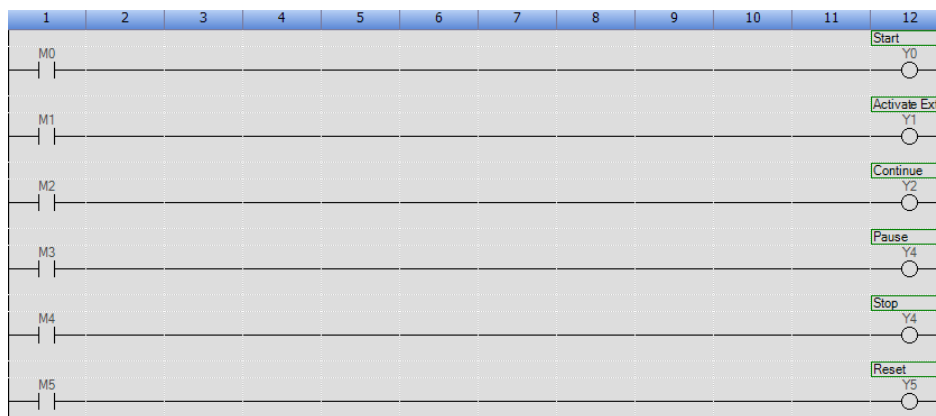

Figure 6.55 PLC program
- Step 5** Create a new PLC project and build it on the GX Works3 programming software, as shown in Figure 6.55.